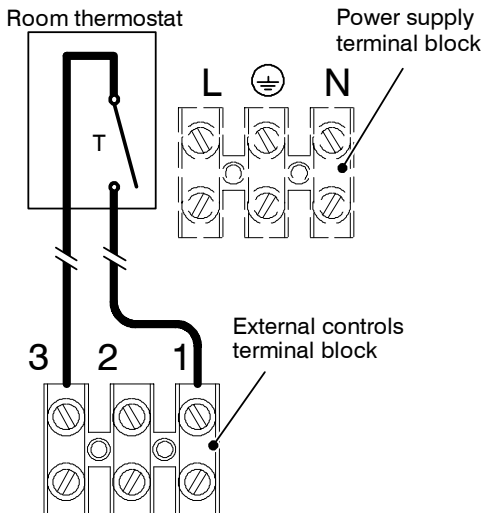

Fig. 6.15
- 8 Connect the room thermostat between terminals 1 and 3 as shown in Fig. 6.15. **Do not connect live wires to terminals to which the room thermostat must be connected.**